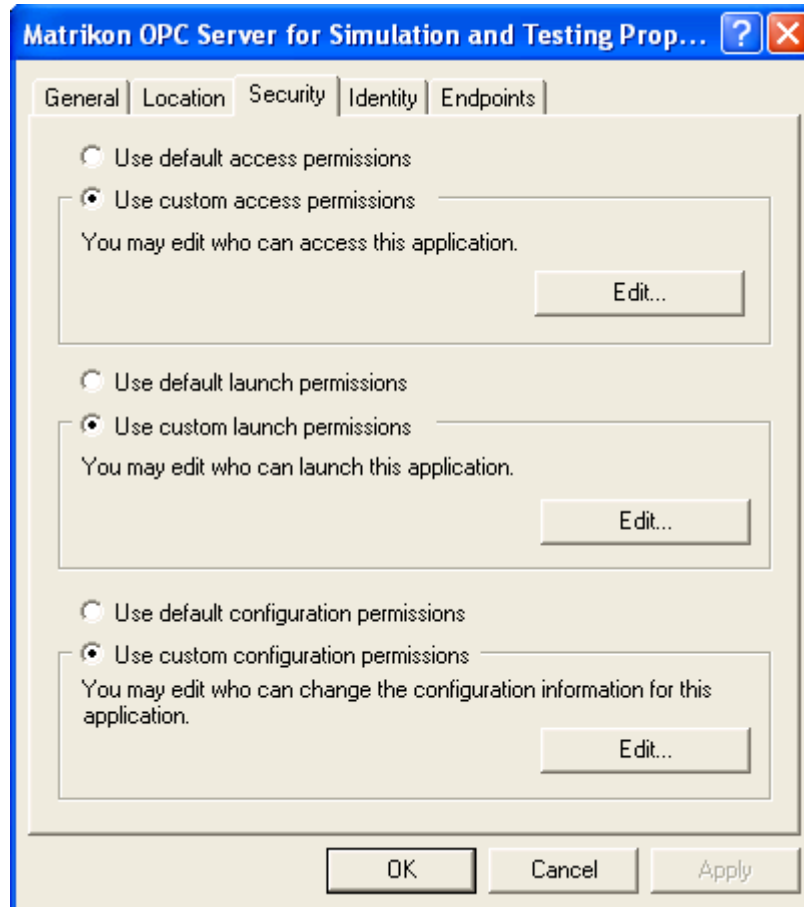

Figure 72 - Distributed COM Configuration Security Tab
5. The **Distributed COM Configuration Security** tab (Figure 72) appears.